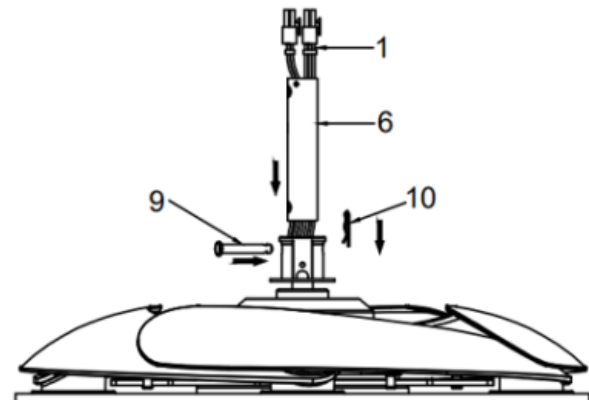

Fig. 4.3
3. Carefully feed the fan wires (1) up through the down rod (6). (fig. 4.3)
4. Assemble the down rod (6) into the down rod coupling housing (8), by inserting and lining up the down rod coupling housing holes with the down rod holes and insert the hitch pin (9) and secure it with the lock clip (10). (Fig. 4.3)